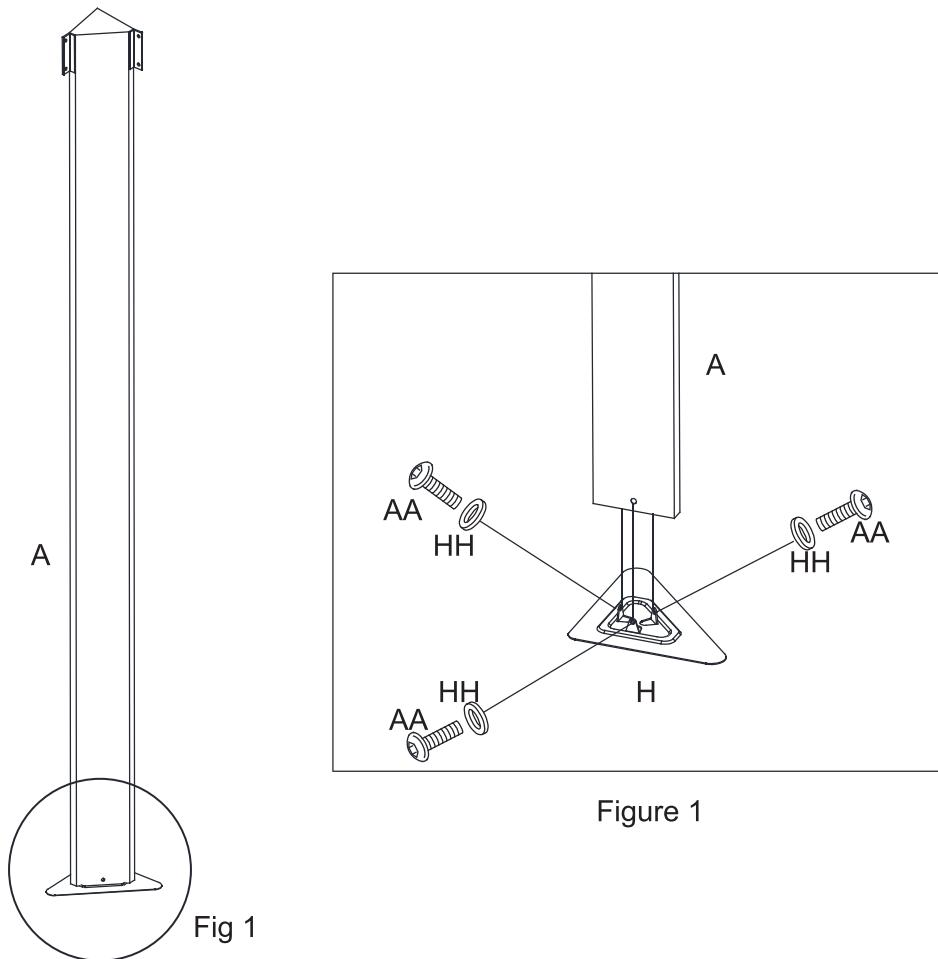

Figure 1
1. Connect the Corner Post Base Plate (H) to the Corner Post (A) using Bolt (AA) and washer (HH). Repeat for all Corner Posts and Base Plates. Tighten all Bolts. See Figure 1.